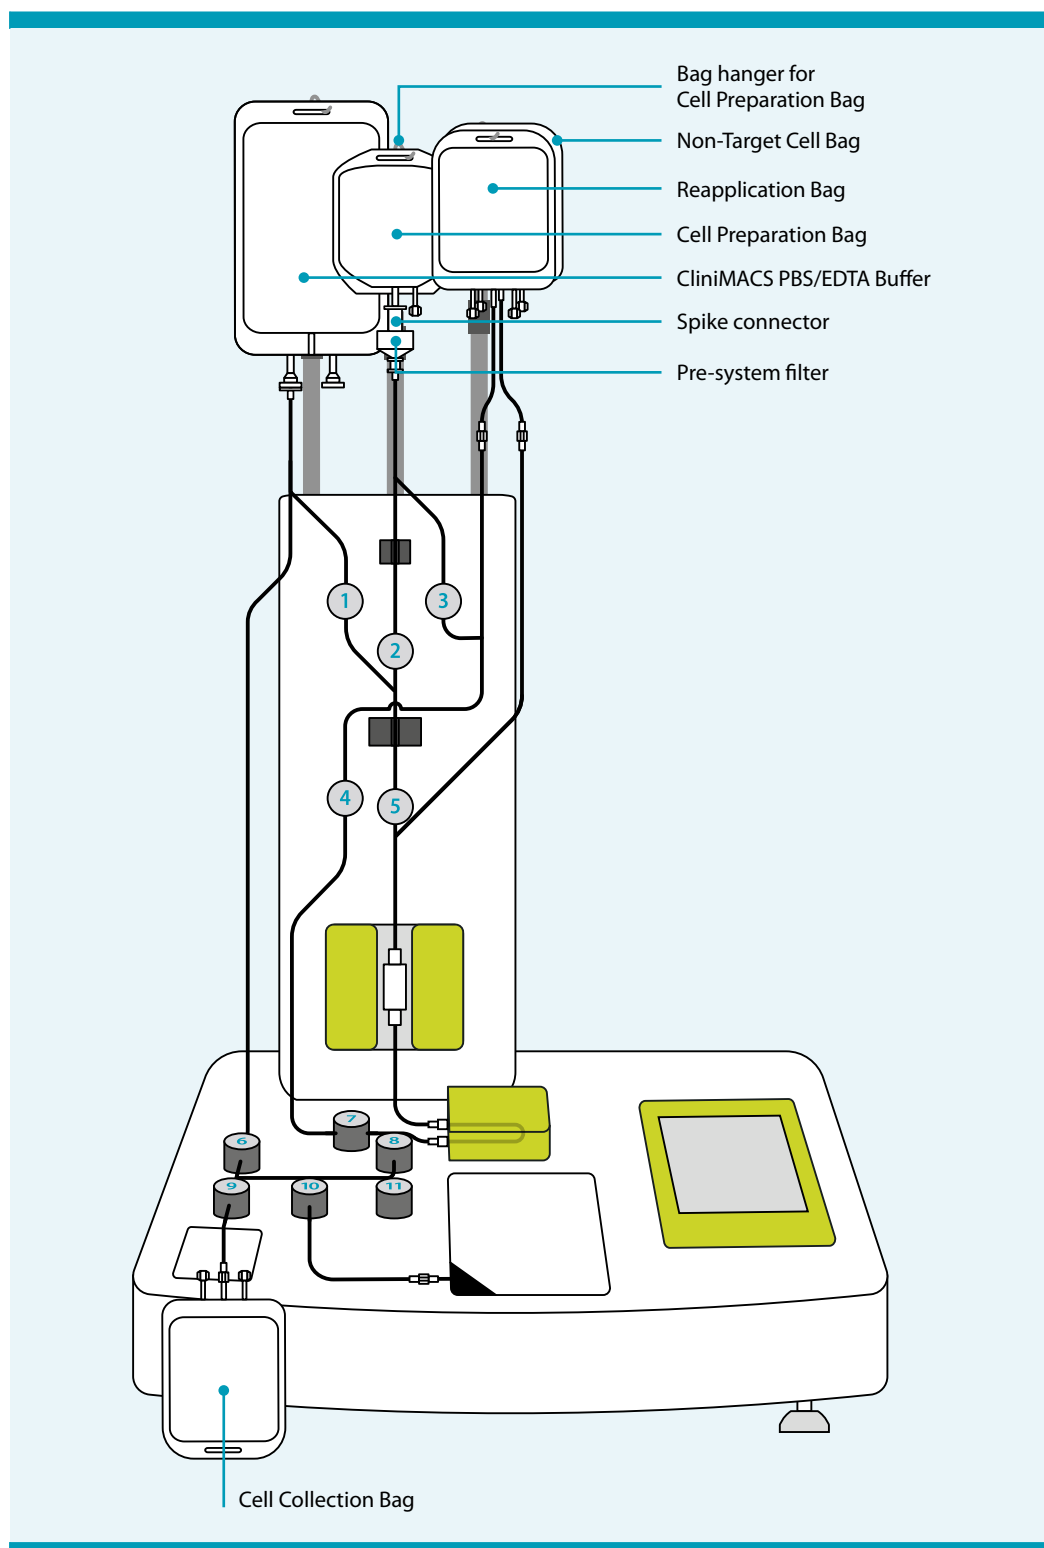

Figure 7.21: CliniMACS Plus Instrument with CliniMACS Depletion Tubing Set, CliniMACS PBS/EDTA Buffer, Cell Preparation Bag, and Cell Collection Bag
6. Hang the Cell Preparation Bag on the bag hanger (see Figure 7.21).